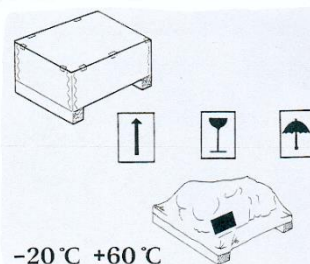

fig. 14
- If necessary, the packaging can include signs and pictograms that provide important information regarding handling and transport (weight, lifting points, storage information, etc.) - (fig. 14).